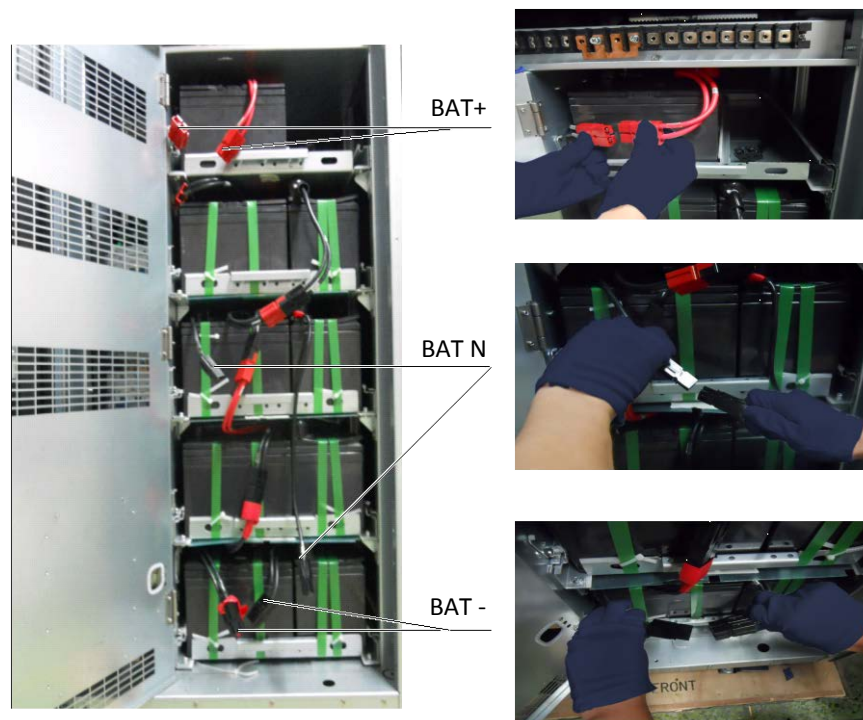

Figure 5-3 Disconnecting terminals of the internal battery
7. If the UPS has internal battery, use the special tool to open the battery compartment door, then wear arc preventive gloves to disconnect the three terminals 'BAT+', 'BAT-' and 'BAT N' (see Figure 5-3 for details). If the UPS has external battery, disconnect the corresponding switch of the external battery.
2. If the UPS has internal battery, use the special tool to open the battery compartment door, then pull the three terminals 'BAT+', 'BAT-' and 'BAT N' (see Figure 5-3 for details). If the UPS has external battery, disconnect the corresponding switch of the external battery.
After EPO, if the input mains is present, the UPS's control circuit will remain active; however, the output will be turned off. To remove all power from the UPS, first disconnect the external power switch of the UPS, and then pull the battery terminals (see Figure 5-3 for details).